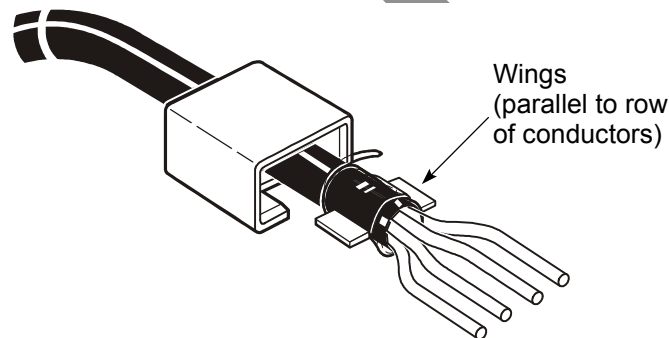

Figure 40 – Crimping the ferrule
7. Crimp the ferrule such that the crimp wings are parallel to the row of conductors; see Figure 40.